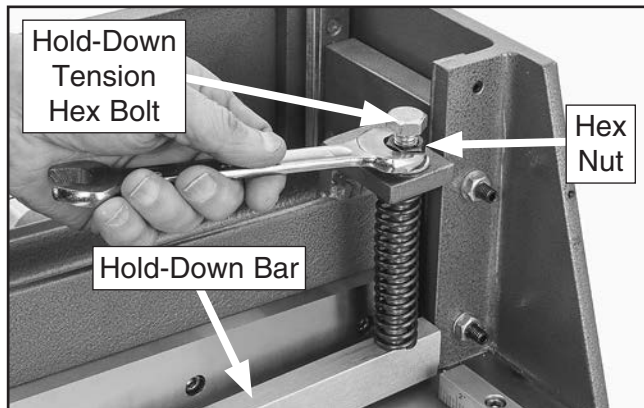

Figure 8. Loosening hex nut to adjust hold-down bar clearance.
2. With blade raised, loosen hex nut, then rotate hold-down tension hex bolt (see **Figure 8**) to raise/lower hold-down bar to adjust clearance.